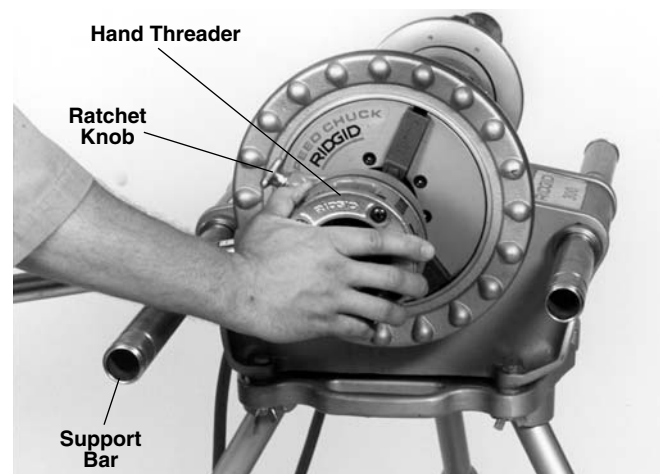

Figure 7 – Pushing Hand Threader onto Pipe to Engage Dies
3. Rest the hand threader ratchet handle on the left support bar (as viewed when facing the front of the Power Drive – *Figure 7*).
8. Push the die head against the pipe using the palm of the right hand until the dies engage the workpiece. Once engaged, the threads will be cut as the dies pull themselves onto the end of the pipe (*Figure 7*).